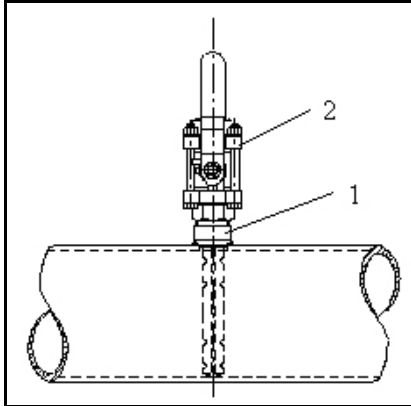

Fig 14
3. Tack the mounting stud [1] (supplied with the Flo-Tap) onto the pipe leaving a clearance of 1 to 2 mm (please refer to fig. 14)
5. Fasten unit isolating valve [2] to the mounting stud [1] and open valve. Verify that the stem is in position as shown in fig. 14 to ensure clearance for the insert-retract rods.
12. Install the threaded stud [5] onto the isolating valve [2] (see fig. 14 and 16).